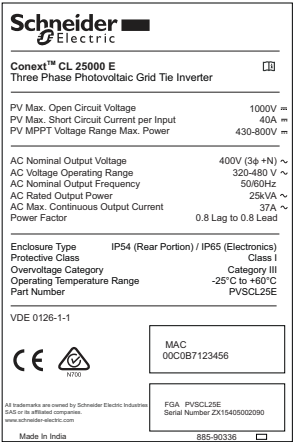

Figure 1-14 Inverter label
- l) Note down the Serial number, MAC and FGA details from the inverter label as shown in Figure 1-14 on page 1–11.